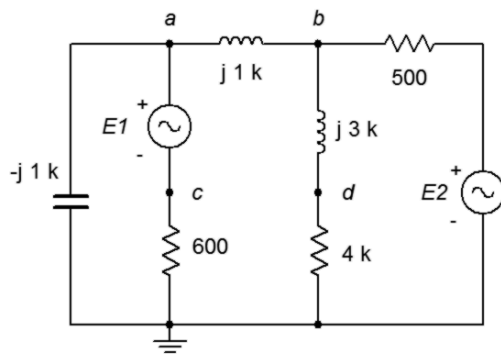

Figure 6.5
9. Given the circuit in Figure 6.5, use mesh analysis to determine v_{cd} . $E1 = 0.1\angle 0^\circ$, $E2 = 0.5\angle 0^\circ$.
10. Use mesh analysis to find the current through the $600 \text{ }\Omega$ resistor in the circuit of Figure 6.5. $E1 = 9\angle 0^\circ$, $E2 = 5\angle 40^\circ$.
50. Given the circuit in Figure 6.5, use nodal analysis to determine v_{ad} . $E1 = 9\angle 0^\circ$, $E2 = 5\angle 40^\circ$.